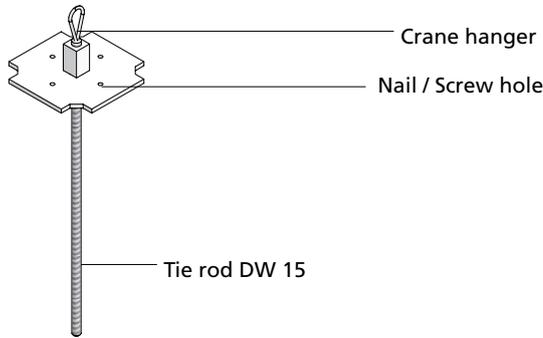
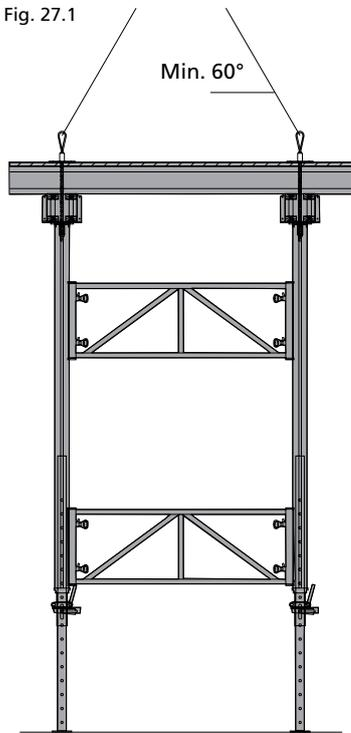

Fig. 27.1
Fig. 27.2
The crane hanger MEP (Fig. 27.1) is used to fly table forms (Fig. 27.2 and 27.3). The capacity per hanger is 10 kN.
- Either by screwing the crane hanger into the DW thread of the forked prop head MEP (Fig. 27.2)